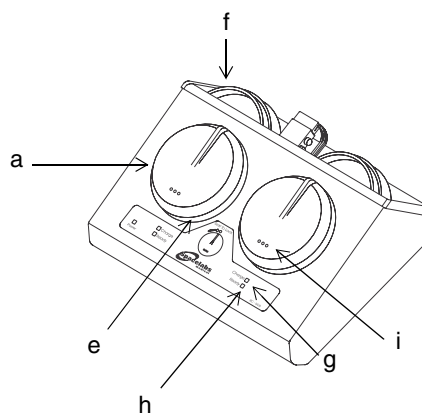

Figure 15-17: Wireless transducer — Mermaid system
1. The battery packs are enclosed in the top half of the Mermaid ultrasound and Toco transducers (*Figure 15-17*). To remove the packs (a) from the transducer elements, twist the pack counterclockwise. There will be a noticeable movement. Simply pull the battery pack to disengage.